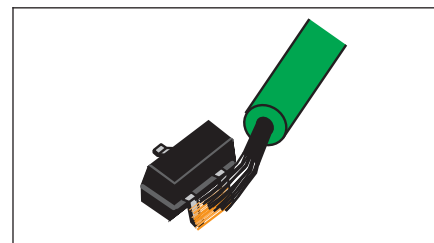

Figure 1 Apply Flux
5. Apply flux to all lead/land areas. (See Figure 1.)